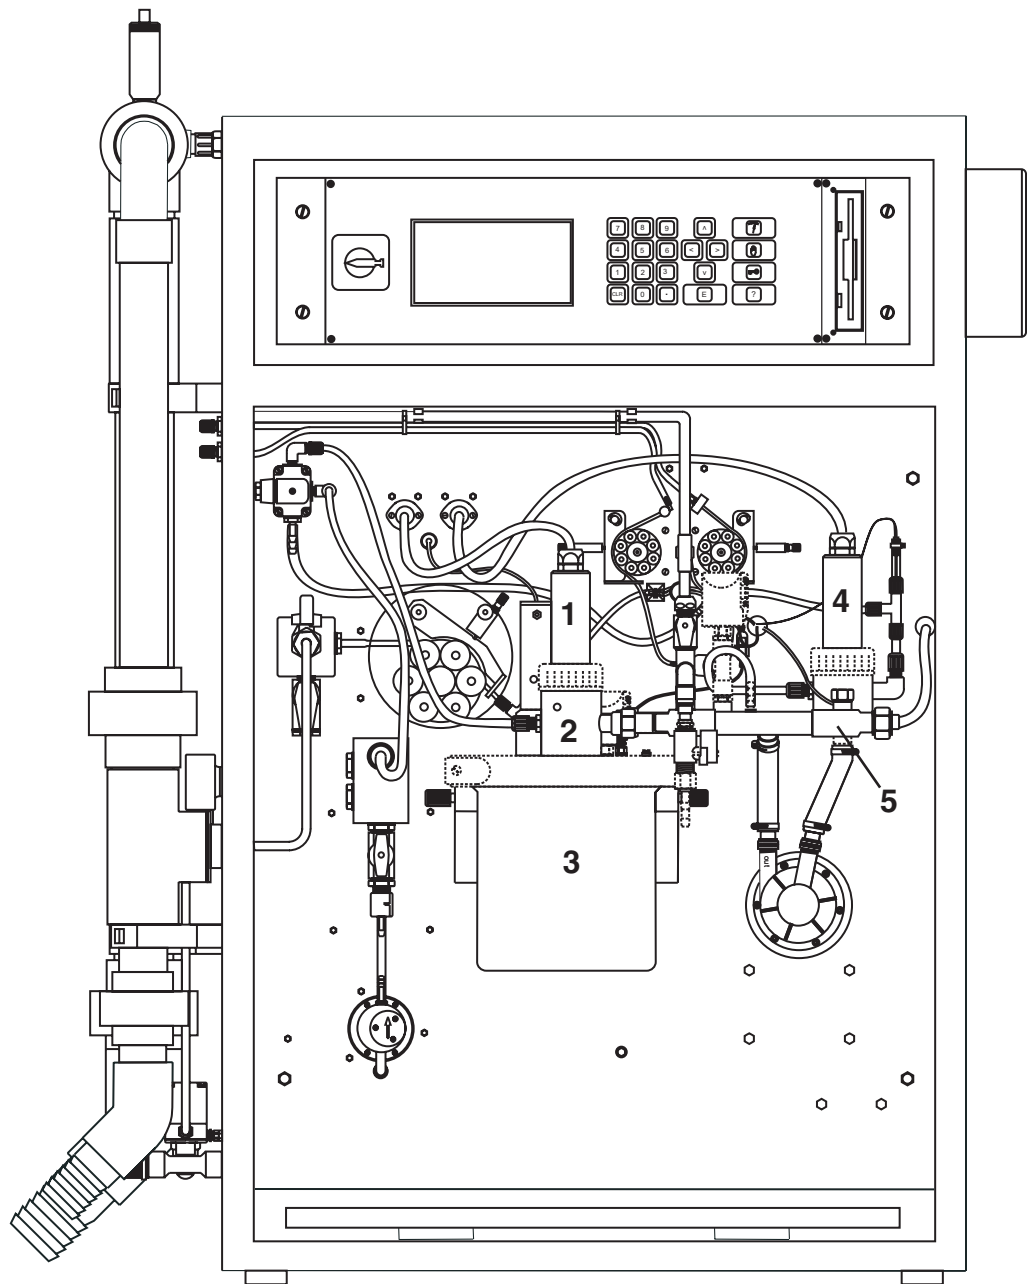

Figure 15: Front Interior of Analyzer
- Install E1 O2 probe (figure 15, item 1) in flow armature (item 2) on the lid of the bioreactor (item 3). Connect probe cable with socket E1.
- Install E0 O2 probe (figure 15, item 4) in the circulation loop (figure 15, item 5). Connect probe cable with socket E0.